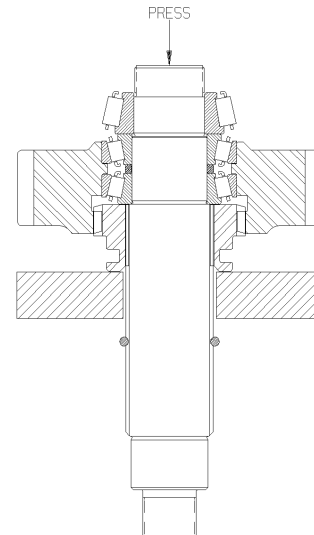

Fig. 28
3. Press the under-drive gear and all bearings off of the shaft as shown. *See Fig. 28.*